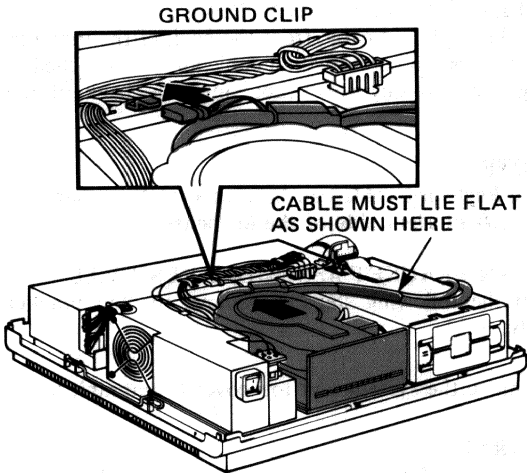

Figure 5-24 Fastening Ground Clip to Power Supply
3. Make sure the hard disk drive cable lies flat across the diskette drive (Figure 5-24).
6. Fasten the ground clip on the hard disk drive cable to the ground lug on the power supply (Figure 5-24).